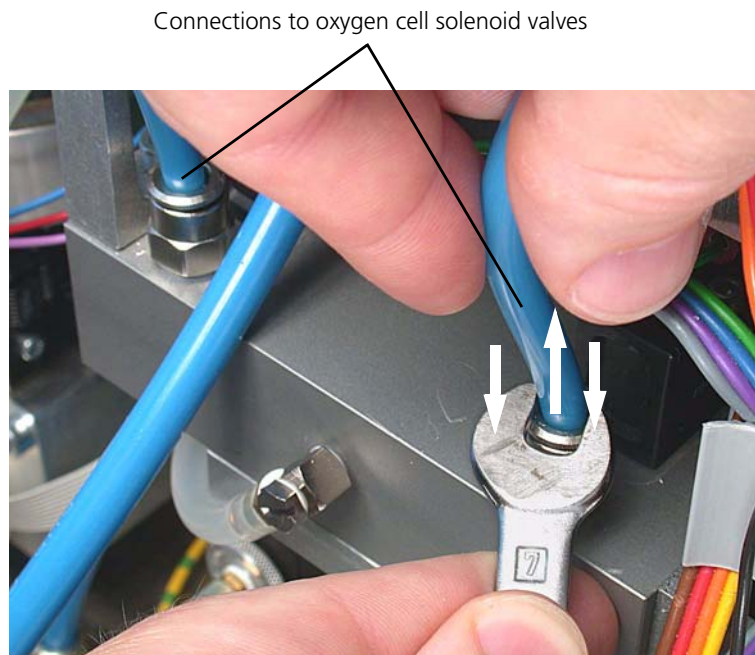
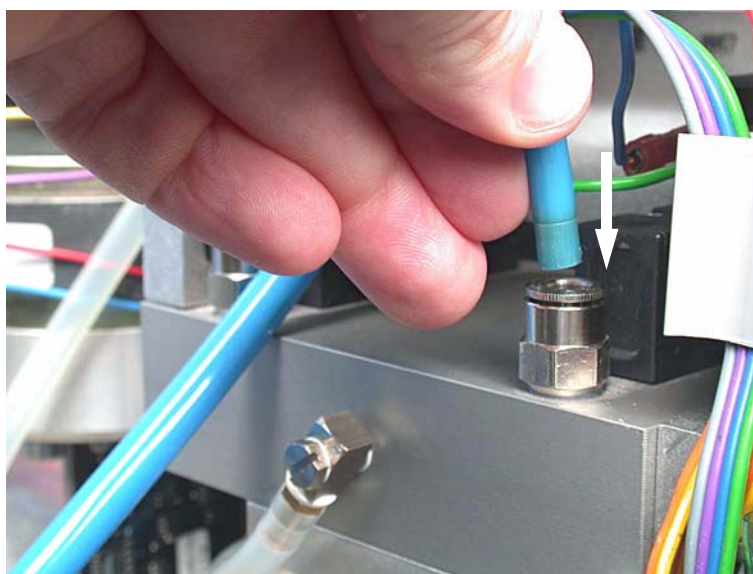

Figure 11-158. Removing one of the oxygen cell solenoid valve connections
Figure 11-164. Refitting one of the oxygen cell solenoid valve connections
5. Remove from the block, the two blue tubes that connect to the oxygen cell solenoid valves. To do this, push down on the inner collar of the connector with a suitable spanner, while pulling up the blue tubing. (Figure 11-158.)
- Refitting the small blue tubes to the oxygen cell solenoid valves is easier than removing them. Just push the tubes into place. Compare Figure 11-158 on page 11-146 and Figure 11-164 below.